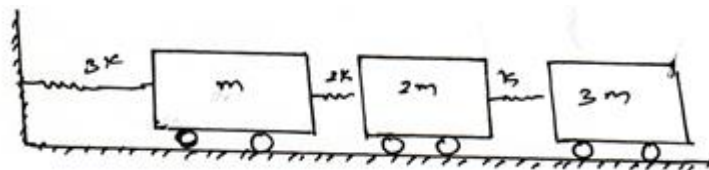

Figure.4
7. Using Stodala method determine the fundamental frequency of the system shown in fig.4